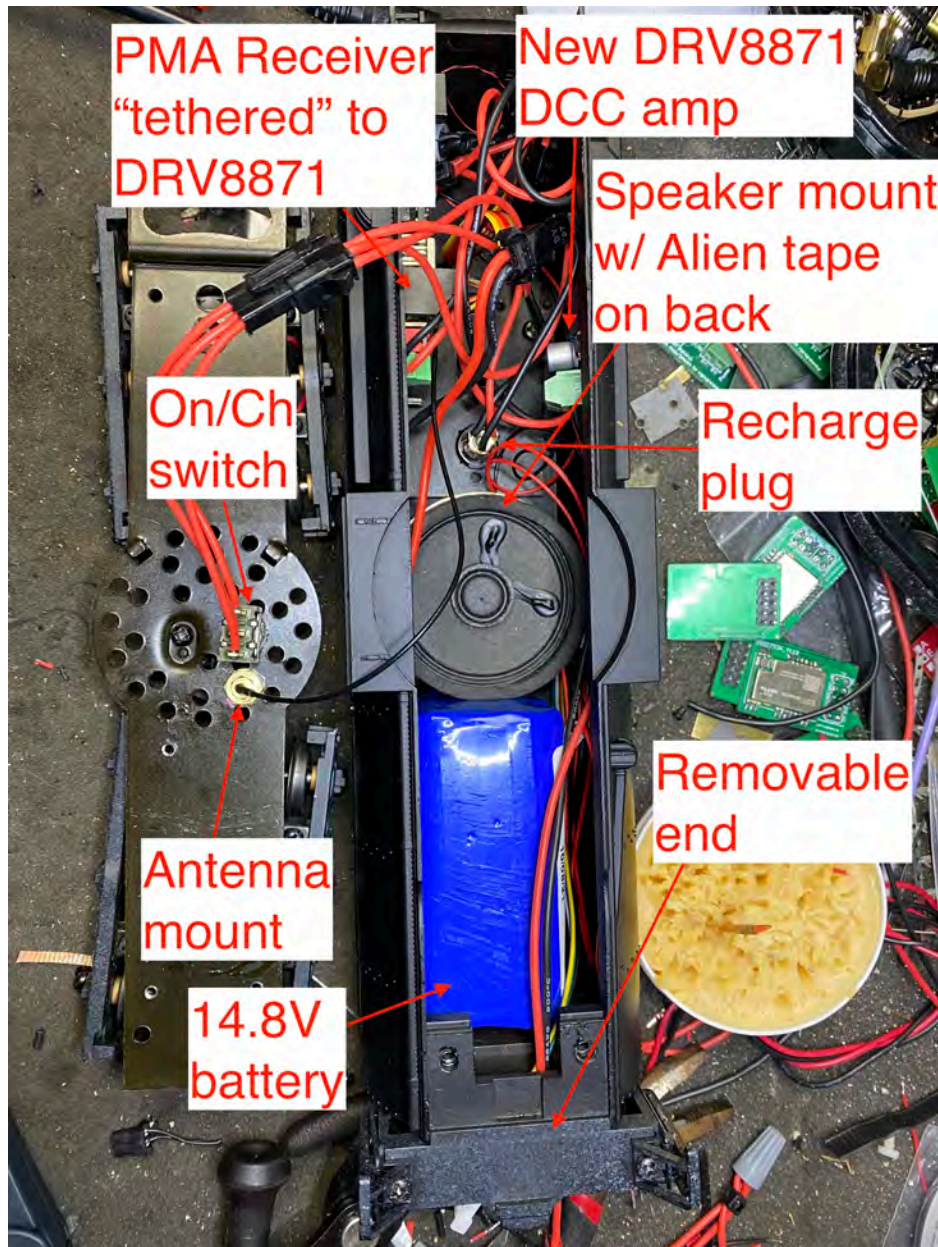

Figure 18: ProMiniAir receiver integration with battery power, a DRV8871 H-bridge “amp,” and antenna
- The AdaFruit DRV8871 or DRV8871 clones are smaller (1.0”x0.8”x0.4”) 3.6A H-bridge motor drivers requiring two logic-level DCC inputs that are inverted with respect to each other. We activate this output scheme by setting CV253 to 0. On power-up, some decoders produce large “in-rush” currents because their large “keep-alive” capacitors are in near short-circuit condition before they charge. These in-rush currents will cause the DRV8871 to shut down unless the output current is limited. We insert a 1-ohm resistor in series with the DCC output to limit the current during short-circuit conditions. See Figure 18.